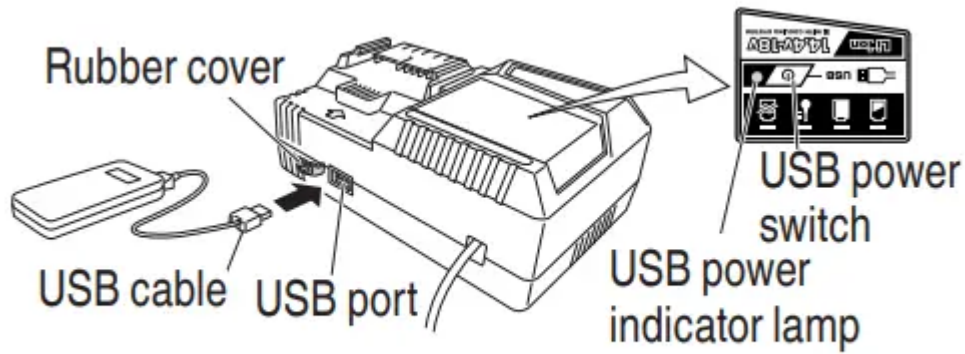

Fig.4
(2) Turn the USB power switch ON (Fig. 4) When you turn the USB power switch ON, the USB power indicator lamp will light up
(3) Connect the USB cable. (Fig. 4) Pull back the rubber cover and firmly plug in a commercially available USB cable (appropriate to the device being charged) into the USB port.
(4) When charging is completed
- Turn the USB power switch OFF and unplug the power cord from the electrical outlet. (Fig. 4)